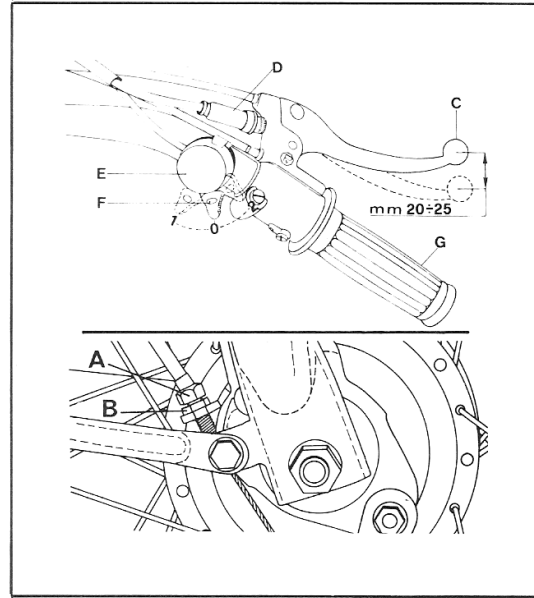

Fig. 11
- adjust the movement of the rear brake control lever, using adjuster screw «A» after loosening counter nut «B» (Fig. 11). The idle movement
Engine starting and stopping button (See fig. 11).